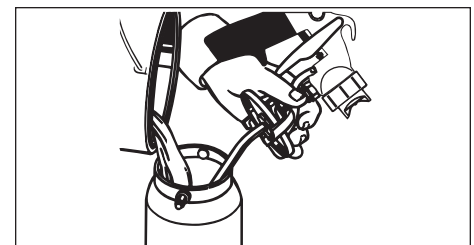

Figure 5 - Filling Paint Cup
2. Pour material into paint cup. Fill cup only 1/2 to 3/4 full if thinning is required. (See Figure 5). Refer to Chart 1 for proper thinning instructions.